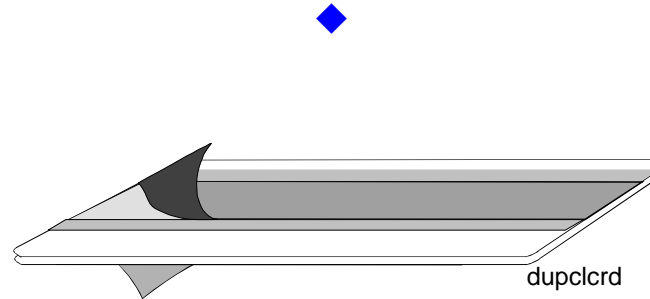

Figure 3:-18 Duplex cleaning card
- c) Place the ribbon cartridge onto the ribbon cartridge supports and press down until it clicks into place (see Figure 3:-12).